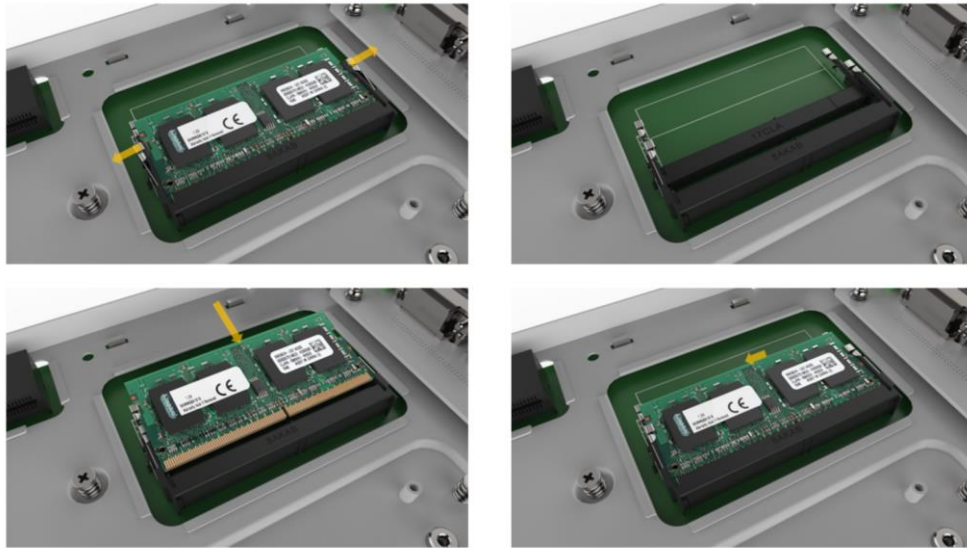

Figure 3-6: Memory Installation
- Step 3:** Once aligned, press down until the memory module is properly seated and the two handles fully clip into place (**Figure 3-6**)